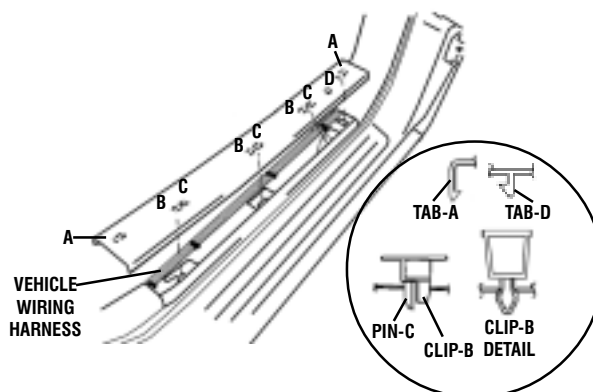

FIGURE 6
- 1.) PULL THE FRONT SCUFF PLATE INNER UPWARD WHILE DETACHING TABS A, DETACH CLIPS B, PINS C AND D FROM THE BODY, AND THEN REMOVE THE FRONT SCUFF PLATE INNER. (SEE FIGURE 6)